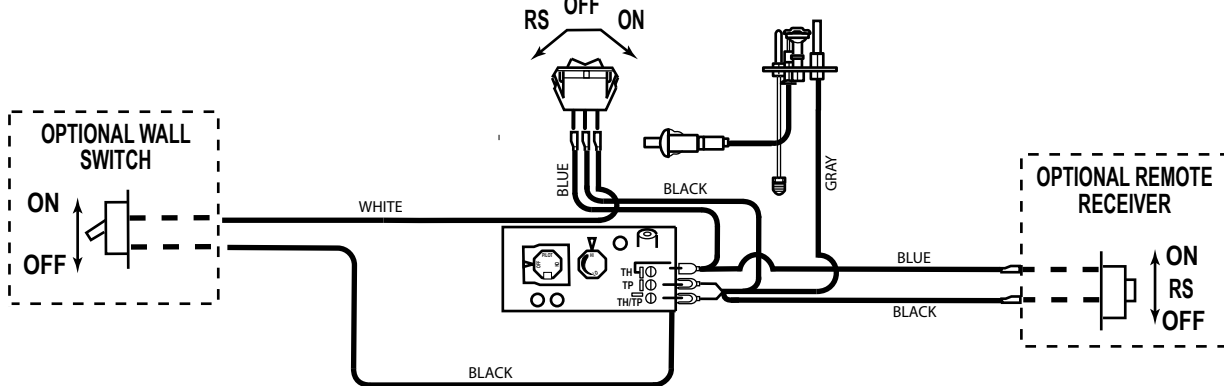

Figure 42 - Wiring Diagram for Wall Switch
A remote wall switch and up to fifteen (15) feet of 18 Ga. wire may be used with this appliance. Attach the wall switch in a junction box at the desired location on the wall. See Figure 42. Do not extend beyond the wall switch wire length provided.
2. Connect the wire terminal from the remote receiver. This replaces the 15' wall switch connection to the switch. See Figure 42.